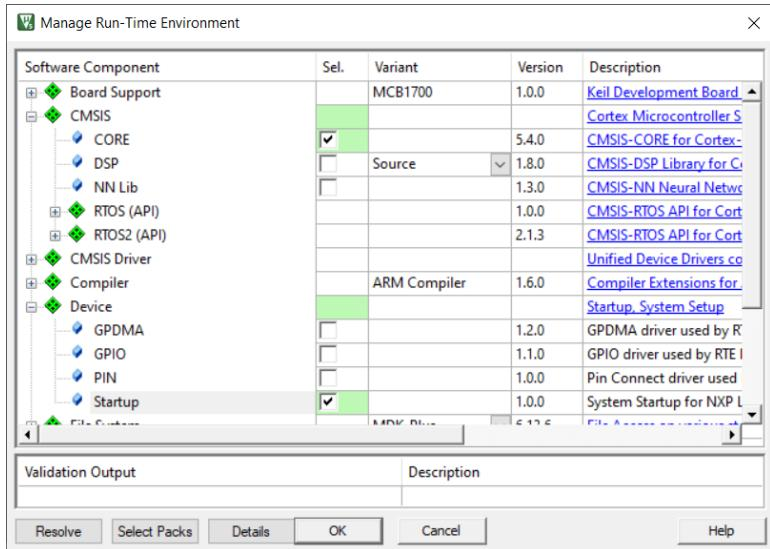

Figure 8.4: Keil IDE: Manage Run-time Environment
- Select CMSIS → CORE and Device → Startup (See Figure 8.4).